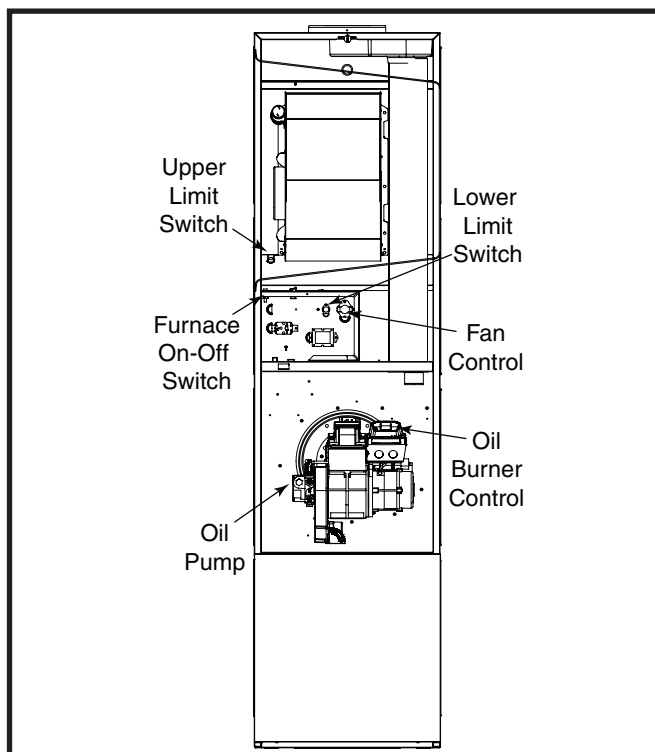

Figure 29. Furnace Controls - Oil Furnace
- Verify the furnace door switch is in the **ON** position. See Figure 29 \(page 19\).
Furnace On / Off Switch: This switch turns electrical power to the furnace on and off. The switch must be set in the ON position for the furnace to operate. If blower operation is not desired, the furnace On-Off switch may be set in the Off position to cut the electrical power to the furnace. See Figure 29.
Limit Control: This furnace is protected by two high temperature safety limit switches. The auxiliary (upper) limit switch and the high temperature (lower) limit switch are automatic reset types. If either limit trips, the burner will shut off. If either limit switch trips off again soon after resetting, set the furnace furnace On-Off switch to the Off position and call your authorized serviceman. See Figure 29.
Oil Burner Primary Control: The primary control for oil gun furnaces starts the burner, monitors a safe operating cycle, and shuts the burner off at the end of a heating cycle. The control uses a light sensing transducer to determine if fuel ignition has been successfully attained. If ignition is not attained by the end of the safety ignition timing period, the control shuts the burner off and enters "lock-out." See Figure 29.